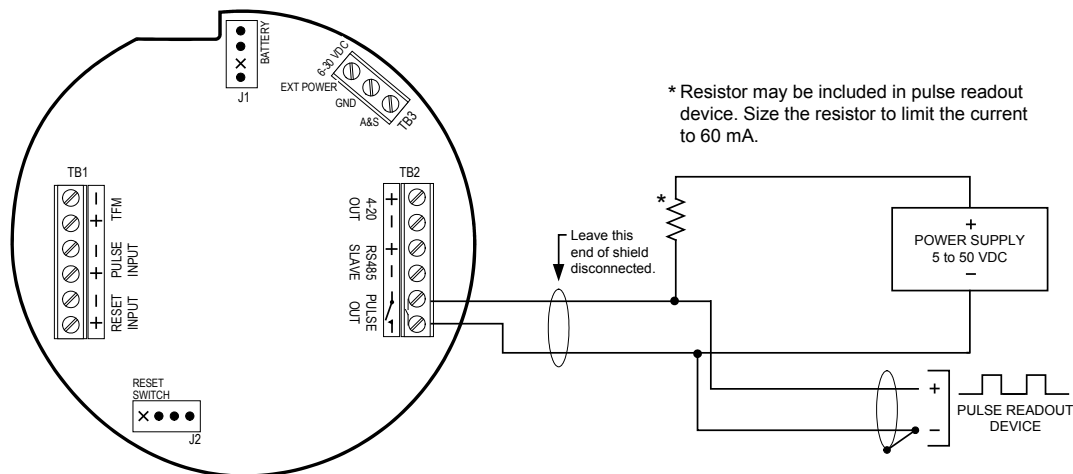

Figure 2.12—Pulse output wiring
7. Connect wiring for output signals, if appropriate. See Figure 2.12 through 2.17, pages page 22 through page 25.